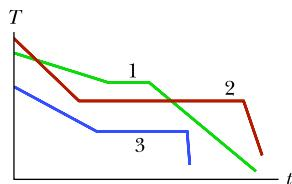

Figure 18.5 Question 9.
- 9** Three different materials of identical mass are placed one at a time in a special freezer that can extract energy from a material at a certain constant rate. During the cooling process, each material begins in the liquid state and ends in the solid state; Fig. 18.5 shows the temperature  $T$  versus time  $t$ .